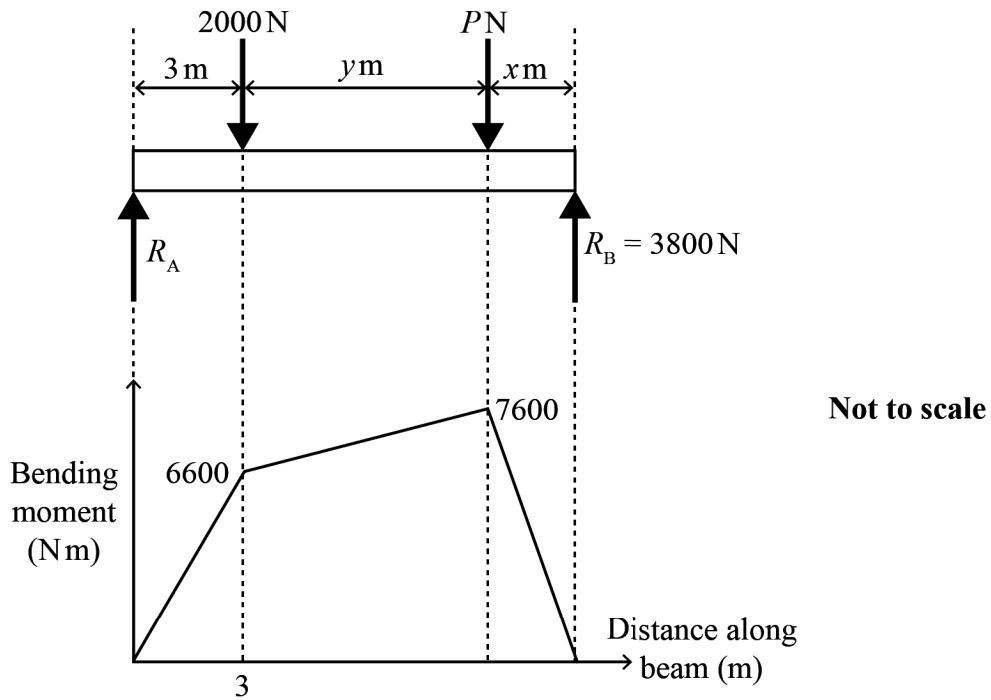

Fig. 5
- (b) Fig. 5 shows a beam with two point loads, and two reaction forces R_A and R_B . The point loads have magnitude 2000 N and P N. The magnitude of reaction force R_B is 3800 N.